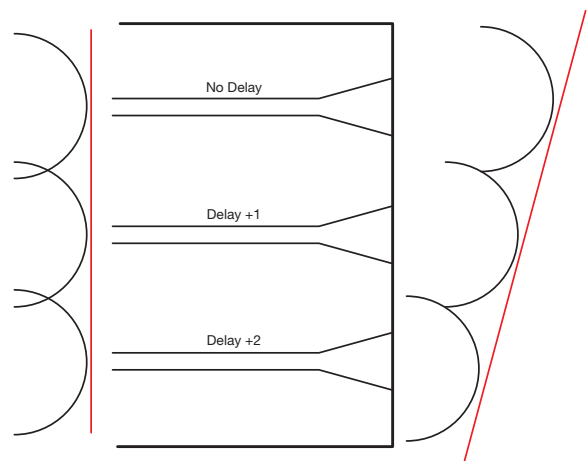

Figure 2. Optical phase array (OPA).
- Optical phase array (OPA). The OPA principle is similar to phased-array radar. In an OPA system, an optical phase modulator controls the speed of light passing through the lens. Controlling the speed of light enables control of the optical wave-front shape, as shown in **Figure 2**. The top beam is not delayed, while the middle and bottom beam are delayed by increasing amounts. This phenomenon effectively “steers” the laser beam to point in different directions. Similar methods can also steer the back-scattered light toward the sensor, thus eliminating mechanical moving parts.